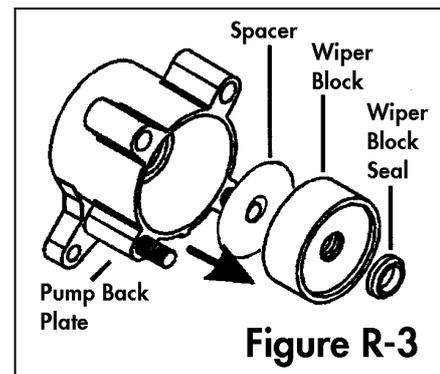

Figure R-3
6. Remove the large o-ring (8012588) from its groove in the side of the pump back plate that faces the pump body. Remove the wiper block and spacer (if present) from the pump back plate. Use needle-nosed pliers to pull the old wiper block seal out of the wiper block. See **Figure R-3**. (Note: This seal is usually damaged during removal. Be sure you have a replacement on hand before removing it.)
5. Install a new wiper block seal into the wiper block. The seal must be pressed into a groove inside the bore in the middle of the wiper block with the narrower side of the seal facing outwards. Form the seal into an oval shape by squeezing it between your fingers and press one side of the seal into the groove in the wiper block. Once an edge of the seal is started into the groove, carefully work the rest of the seal into place. After the seal has been installed, slide the spacer (if present) and wiper block onto the piston shaft. The side of the wiper block from which the seal was installed should be facing outward. Refer to **Figure R-3**.